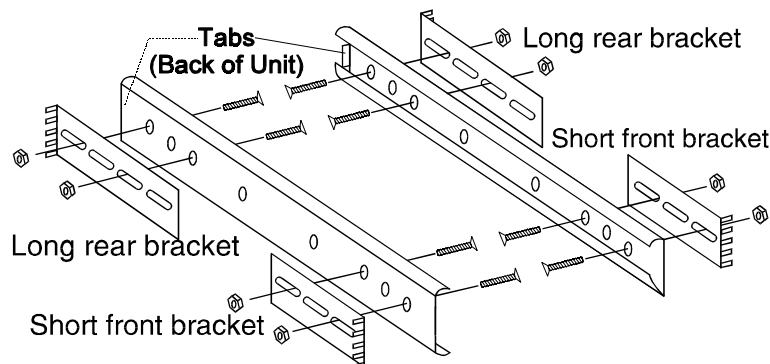

Figure 30
Find the long and short brackets, the flat head screws, and the nuts that you received with your cabinet (items 5, 6, 2, and 3). Use **at least** two screws and nuts to attach one long bracket securely to the **back** of each outer rail as shown in Figure 30. Then, use at least two screws and nuts to fasten one short bracket securely to the front of each outer rail. (See Figure 30.) The brackets are slotted so you can adjust them to fit in the rack.